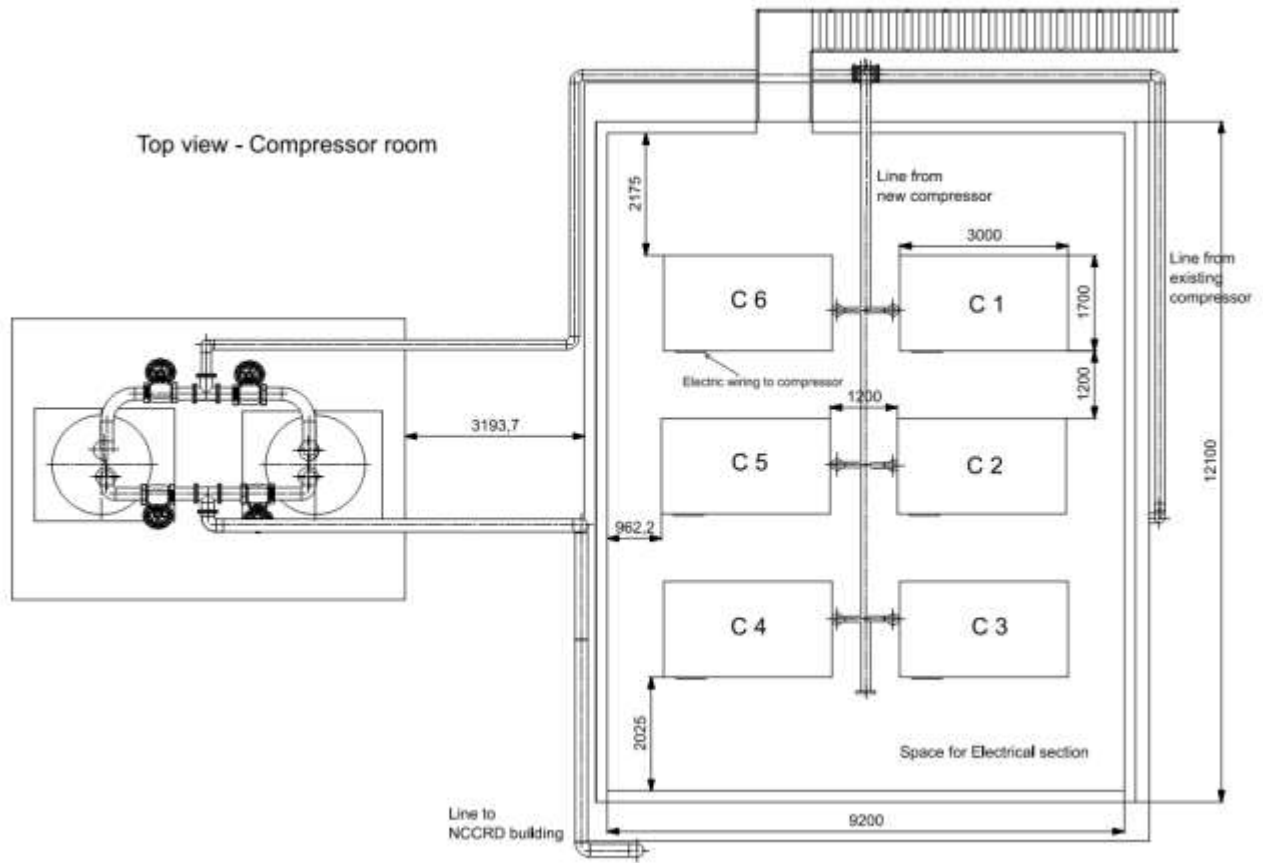

Fig. 3 Top view of the proposed new compressor facility(refer Fig 4 for pipe end connections details)
The new compressors need to be interconnected and a single line need to be taken to the receiver. Layout of the same is given in Figures 3 and 4. Compressors are interconnected using a 3" pipes and the main line is 6" size. Operating pressure is 12 bar and maximum flow rate is 2.1 Kg/s. A rupture disc, ball valves (BV) and non-return valves (NRV) need to be installed in this line to protect the 12 bar compressors during the 40 bar compressor line operation. Similarly, the existing compressor line also need to be modified. The existing gate valves (2 inlet and outlet) need to be converted to lotto lockable gate valves. The valve positioning and specs should be arranged as per the pre-bid meeting. An approximate bill of materials are listed in Table 1.